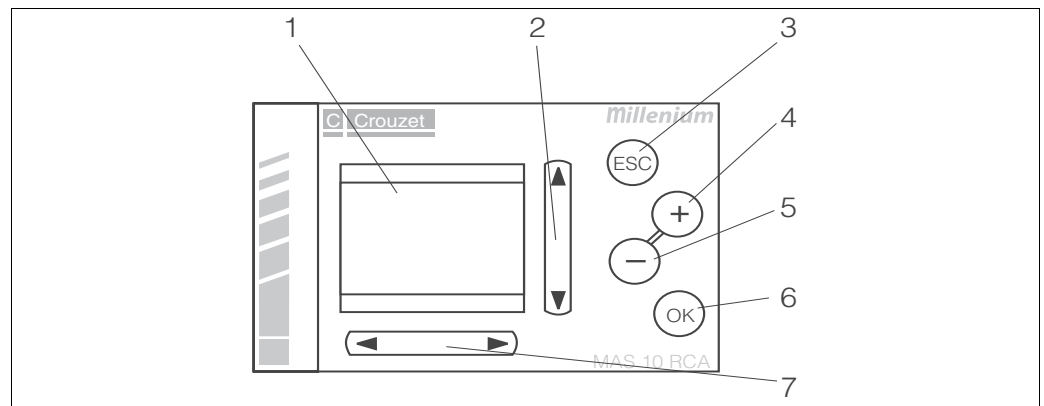

Fig. 17: Crouzet Millenium operating field
In the second line of the display (Fig. 17, pos. 1) the active operating status is displayed. The following operating statuses are possible: